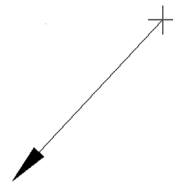

FIGURE 6.14 Leader, Step 3.
Step 3. Move your mouse at a 45° angle away from the first point and click again at a reasonable distance away. You create the *leader line and arrowhead* seen in Fig. 6.14.